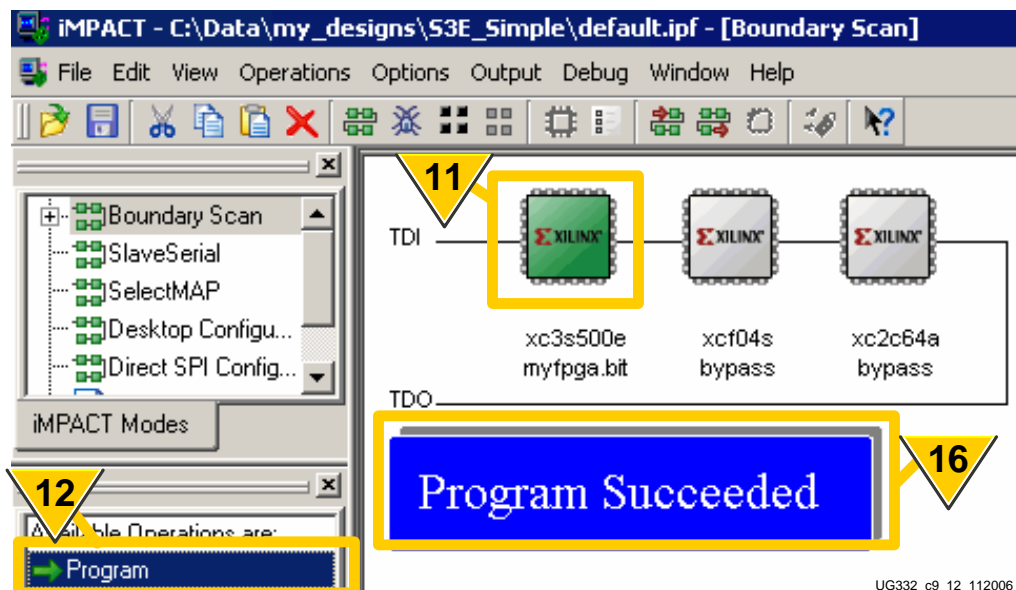

Figure 9-14: Double-Click Program to Configure FPGA via JTAG
11. As shown in Figure 9-14, the iMPACT software updates the display, showing the files assigned to each device in the JTAG chain. In this example, the XCF04S Platform Flash and XC2C64A CPLD are “bypassed” and are not programmed. Click the FPGA to highlight it on the display.
16. The iMPACT software indicates when programming is complete, as shown in Figure 9-14. The iMPACT software also forces the FPGA to reconfigure on the board. The FPGA is downloaded with the specified FPGA bitstream.